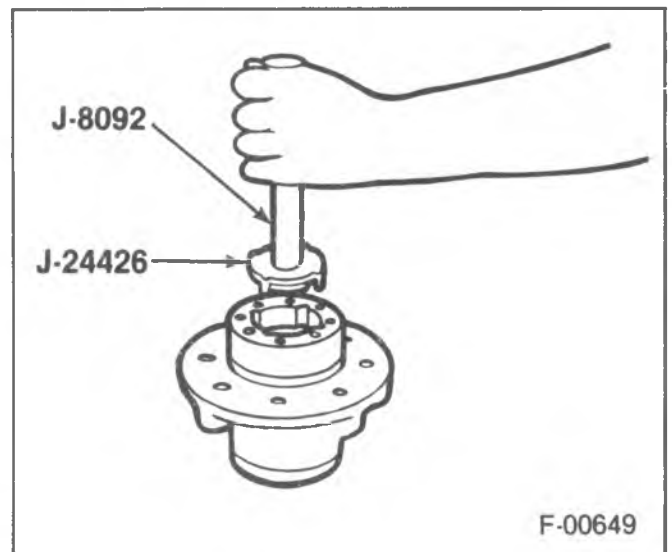

Figure 25—Removing the Outer Bearing and Cup
1. Axle shaft (52) as outlined earlier in this section.
3. Oil seal (47) or (62).
4. Inner bearing (46) or (61). Use a drift to remove the bearing and cup.
5. Retaining ring (45) or (60).
6. Outer bearing (44) or (59) using J-8092 with J-24426 (figure 25).
- Drive the bearing (44, 59) and cup from the hub (49).